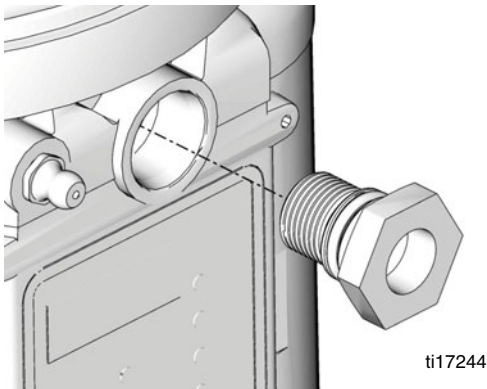

FIG. 6
1. Remove the pump outlet plug from pump outlet (FIG. 6).